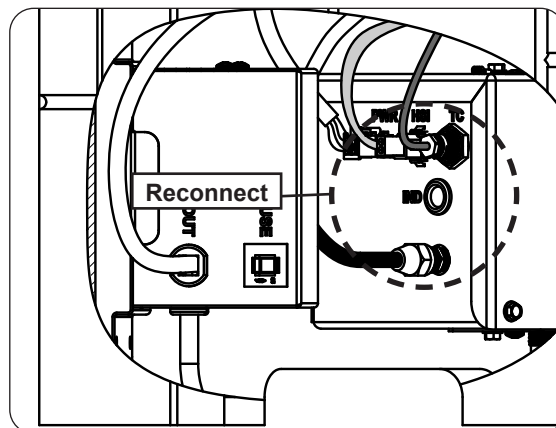

Fig. 27-1 Reconnect pilot line, thermocouple, and hot surface igniter
1. Reconnect the pilot line, thermocouple, and hot surface igniter (coming from the burner assembly) to the control box (see Fig. 27-1).